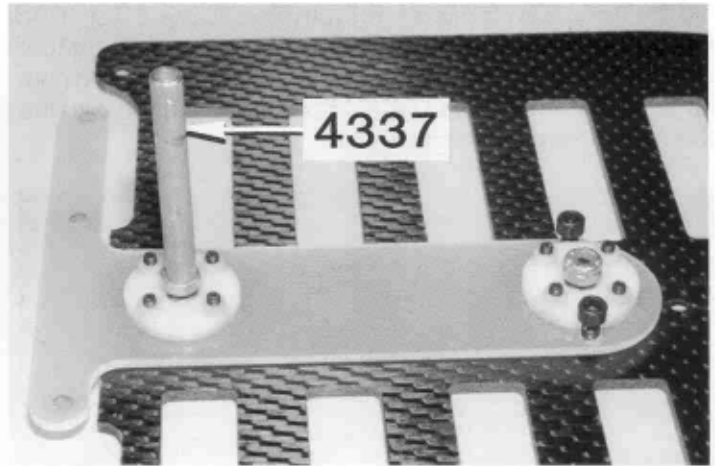

Fig. 21
□ **Fig. 21**— Install and tighten the #4337 aluminum tube.